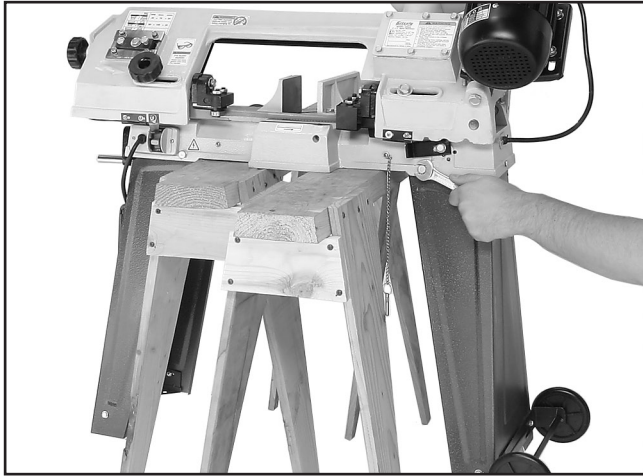

Figure 8. Leg assembly.
7. With the help of an assistant, lift the bandsaw onto a pair of closely spaced sawhorses or other suitable support (see **Figure 8**).